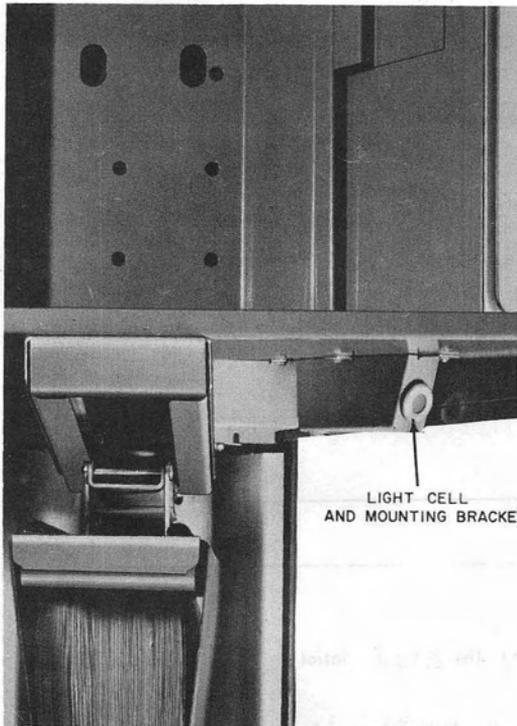

Fig. 21—Installation of Mounting Bracket on KS-19426 Mounting
- (i) Secure the bracket to the bottom of the housing as shown in Fig. 21.
- (1) Slide light shield over the panel retaining channels and verify that shield is seated properly against gasket. Ensure that back edge of shield is engaged in KS-19426, List 34 top assembly, or B-564418 subset cover assembly (whichever is applicable).
- (2) Install shield retainer bar across top of housing using four No. 10-24 by 1/2 tamper proof screws, and KS-19192, List 1 wrench.